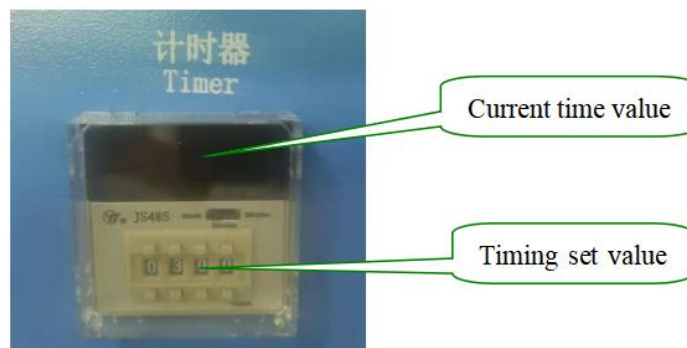

Figure 4
*Timer adjustment: As shown in Figure 4, press the dial code below to adjust the timer setting value.